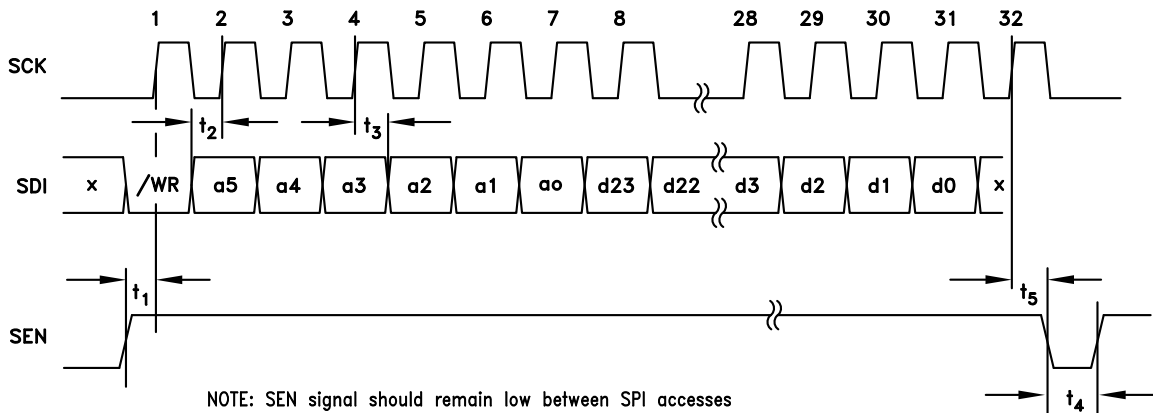
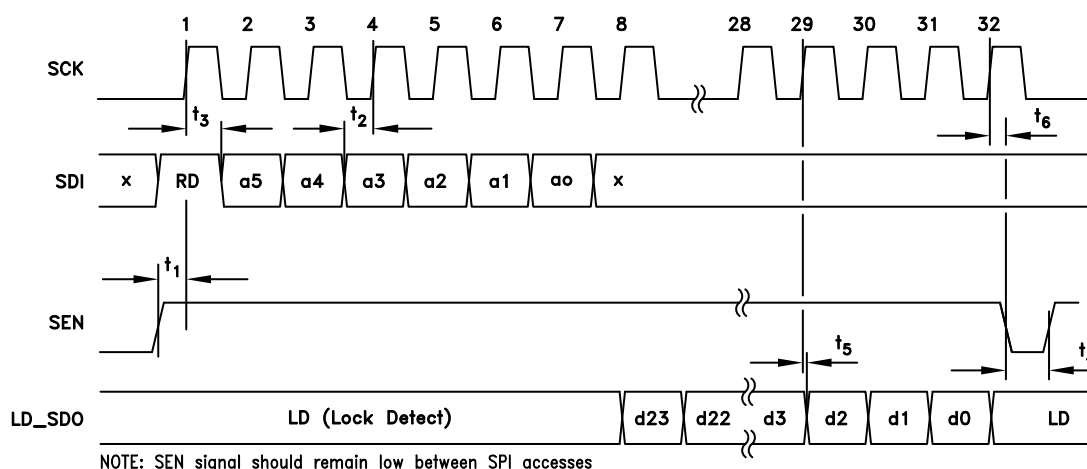

Figure 45. HMC Mode - Serial Port Timing Diagram - WRITE
Figure 46. HMC Mode - Serial Port Timing Diagram - READ
The HMC Mode protocol, shown in figures Figure 45 and Figure 46, is designed for a 4 wire interface with a fixed protocol featuring
A typical HMC Mode WRITE cycle is shown in Figure 45.
A typical HMC Mode READ cycle is shown in Figure 46.
- The Master (host) asserts both SEN (Serial Port Enable) and SDI to indicate a READ cycle, followed by a rising edge SCLK. Note: The Lock Detect (LD) function is usually multiplexed onto the LD_SDO pin. It is suggested that LD only be considered valid when SEN is low. In fact LD will not toggle until the first active data bit toggles on LD_SDO, and will be restored immediately after the trailing edge of the LSB of serial data out as shown in Figure 46.
- The slave (HMC833LP6GE) reads SDI on the 1st rising edge of SCLK after SEN. SDI high initiates the READ cycle (RD)